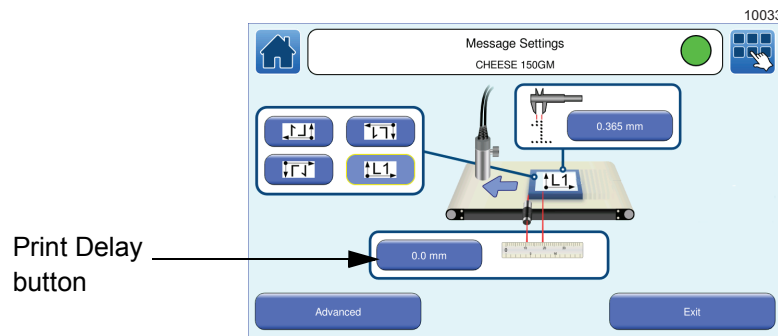

Figure 21. Message Settings screen: Print Delay
- 1 On the Home screen, touch the **Message Settings** button to display the **Message Settings** screen. The current Print Delay value is shown on the Print Delay button (see Figure 21):